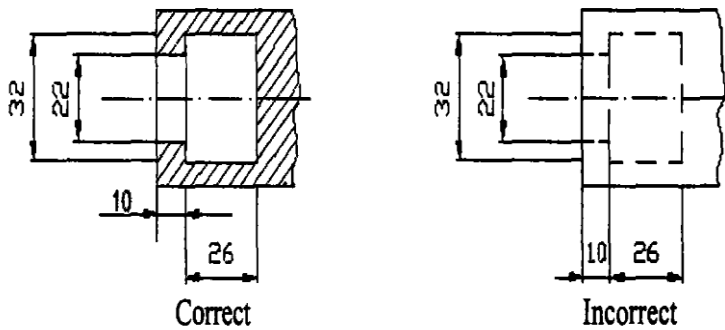

Figure 3 Marking the dimension from the visible outlines.
6. Dimensions should be taken from visible outlines rather than from hidden lines (Fig3).